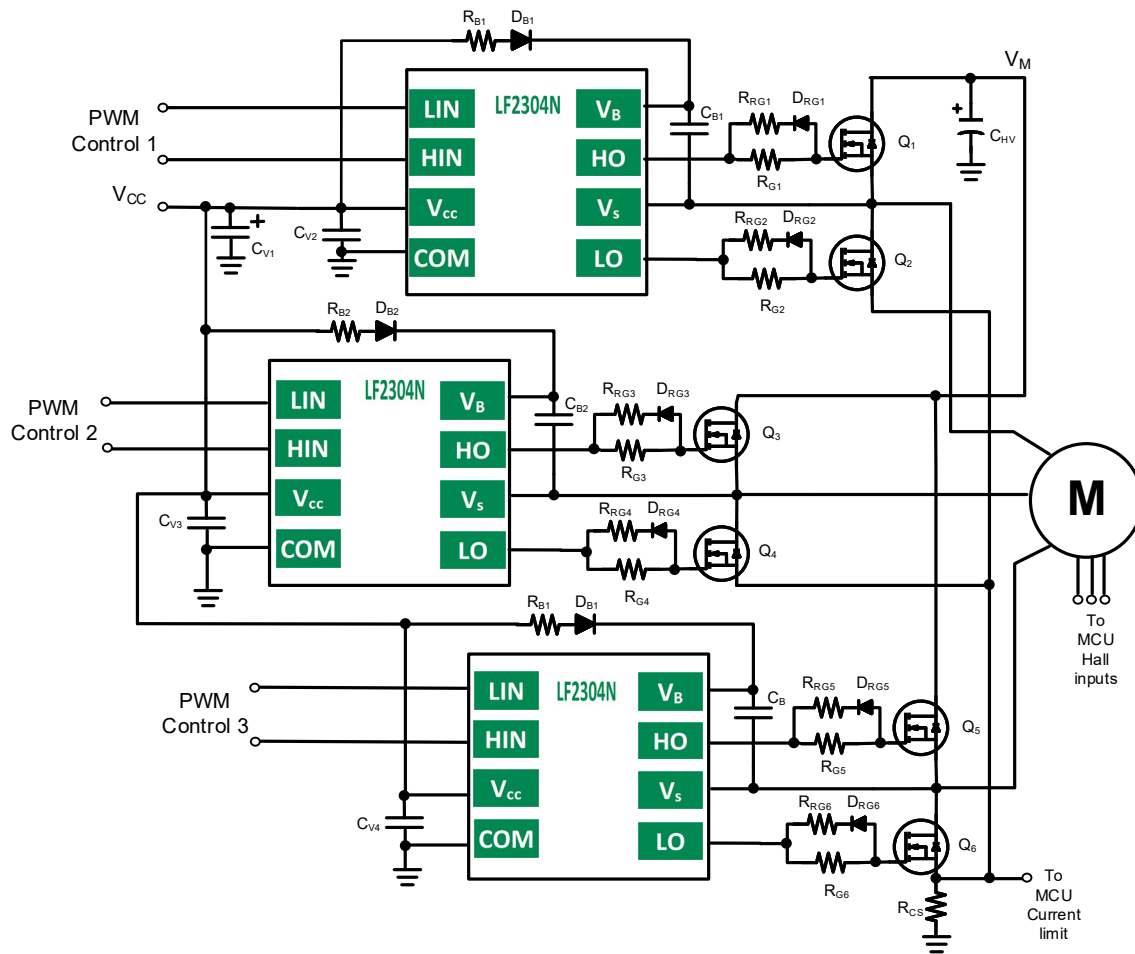
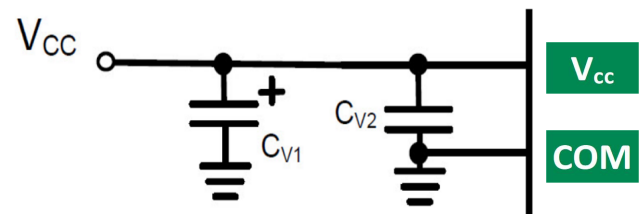

Figure 3. Three phase motor drive application example using the LF2304N
Figure 9. Suggested VCC decoupling
The LF2304N, half-bridge gate driver is used to optimally and efficiently drive the gate of MOSFETs or IGBTs. Below (figure 3) is an example application using the LF2304N with MOSFETs to make three halfbridge circuits used to drive a three phase motor. Typical 3 phase motor applications are AC Induction motors, PMSMs, and BLDC motors; the LF2304N also is typically used for stepper motor applications. LF2304N can also be used in power supplies. In this discussion, the important parameters needed to design in the LF2304N are discussed; main sections are bootstrap resistor, diode, and capacitor selection, gate driver component selection, decoupling capacitor discussion, and PCB layout suggestions.
Considering figure 3, when the low side MOSFET (Q2, Q4, or Q6) turns on, V_s pulls to GND and the bootstrap capacitor (CB1, CB2, and CB3) is charged. When the high side MOSFET (Q1, Q3, and Q5) is turned on, V_s swings above V_{CC} and the charge on the bootstrap capacitor (CB) provides current to drive the IC high side gate driver. The first charge of CB from V_{CC} through the bootstrap resistor (RB1, RB2, and RB3) and bootstrap diode (DB1, DB2, and DB3) occurs when power is first applied and low side turns on the first time. At this time the charge current is the largest as typically CB is not discharged fully at each cycle during normal operation
As shown in fig 9, two decoupling capacitors are recommended $CV1$ and $CV2$. $CV1$ can be a larger electrolytic, for example 47mF, 50V, used to dampen low frequency drains on supply; $CV1$ does not need to be right next to the IC. But $CV2$ is used to decouple faster edge changes to $v_{CC'}$ and should be a low ESR ceramic capacitor placed close to the V_{CC} pin. This component provides stability when V_{CC} is quickly pulled down with load from the IC; typical values are 0.1mF to 1mF. For applications with multiple gate driver ICs (for example BLDC motor drive with 3 x gate drivers as shown in figure 3), one larger electrolytic ($CV1$) can be used and the three ceramic caps ($CV2$, $CV3$, $CV4$) should be used close to the V_{CC} pin (see Layout section also).